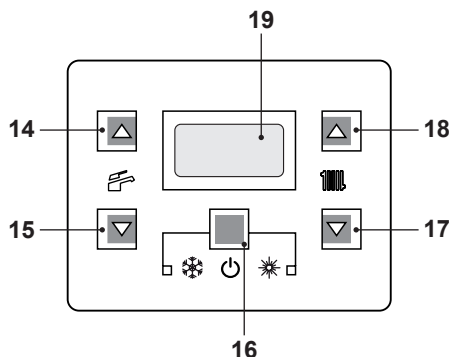
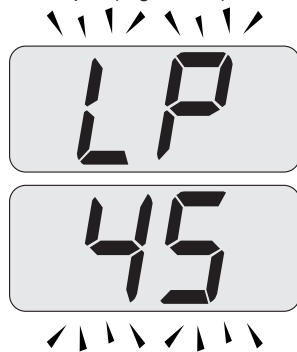

Fig. 10.18
Fig. 10.20
- Enter in "programming mode" by sequentially pressing and holding in keys, 16 - 17 and then 18 (Fig. 10.18) for 10 seconds until the letters **Pr** that alternate with the heating water temperature value (e.g. **45**), indicating the activation of the "flue sweep function" at minimum output (Fig. 10.20).
- Press keys 17 and 18 (Fig. 10.18) at the same time until the LCD display displays the letters **LP** that alternate with the heating water temperature value (e.g. **45**), indicating the activation of the "flue sweep function" at minimum output (Fig. 10.20).
- By pressing 18 (Fig. 10.18) it is possible to change power in flue sweep mode: with the letters **hP** on the LCD display which alternate between the heated water temperature (i.e. **32**), we are in the "flue sweep function" at the minimum power during heating (Fig. 10.21).
- Press sequentially keys, 16 - 17 and then 18 (Fig. 10.18) and hold in for 10 seconds to exit the "flue sweep mode" and return to the previously set boiler status (Fig. 10.24).